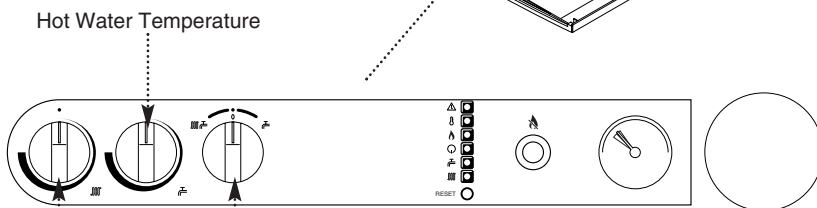

Fig. 36
2. Set the hot water temperature control to maximum and the selector switch to the OFF position (Fig. 36). Draw off all hot water to ensure that the store is cold.
4. Turn the selector switch to the Domestic Hot Water position and press the white boiler reset button for 2 seconds (Fig. 36). Open a hot water tap to give a flow rate of at least 10l/min.